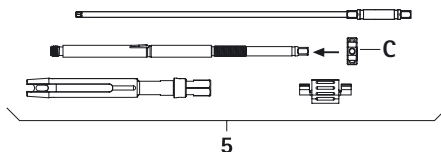

Fig. 11
- Screw lock nut C onto the lever threadpipe, see Fig. 11.